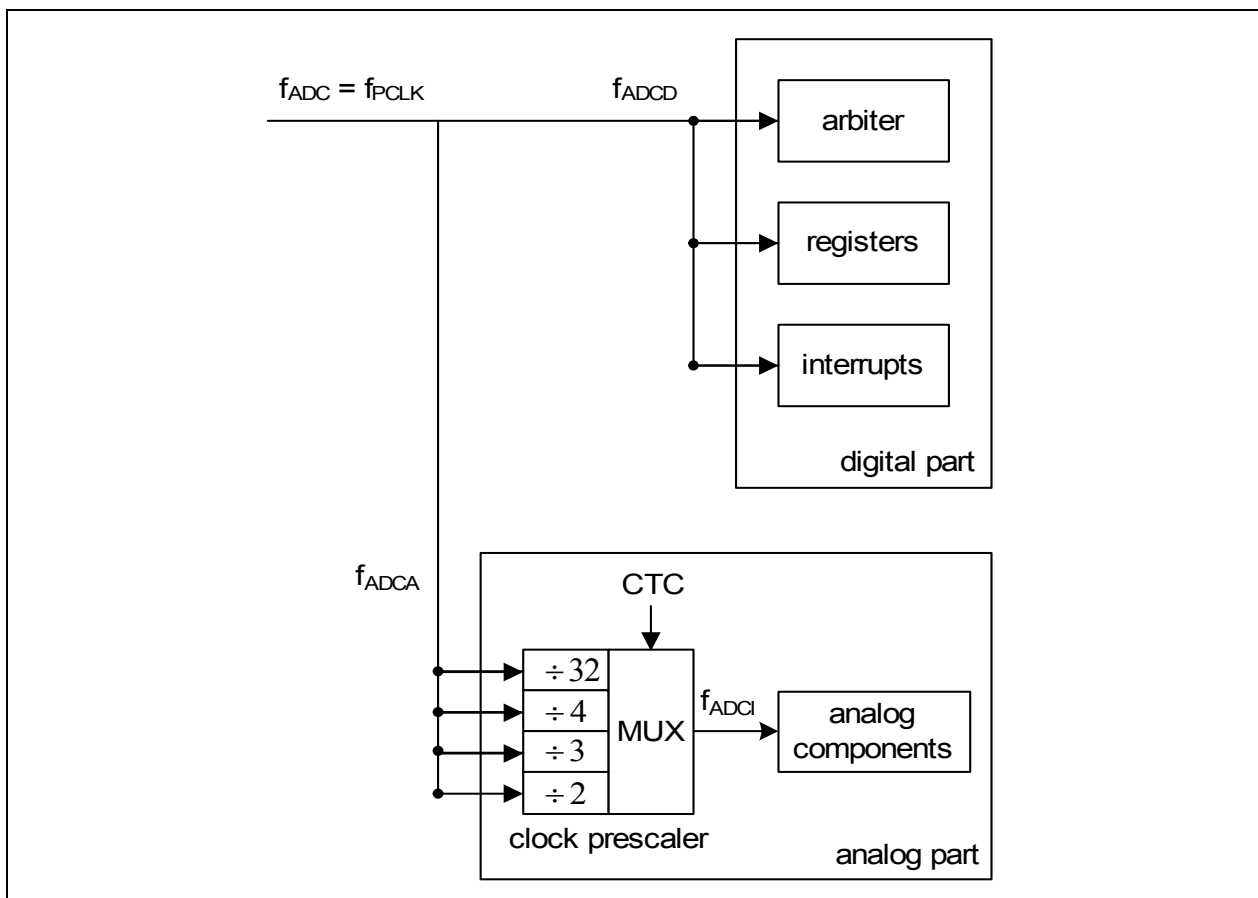

**Figure 31 ADC Clocking Scheme**
**Figure 31** shows the clocking scheme of the ADC module. The prescaler ratio is selected by bit field CTC in register GLOBCTR. A prescaling ratio of 32 can be selected when the maximum performance of the ADC is not required.